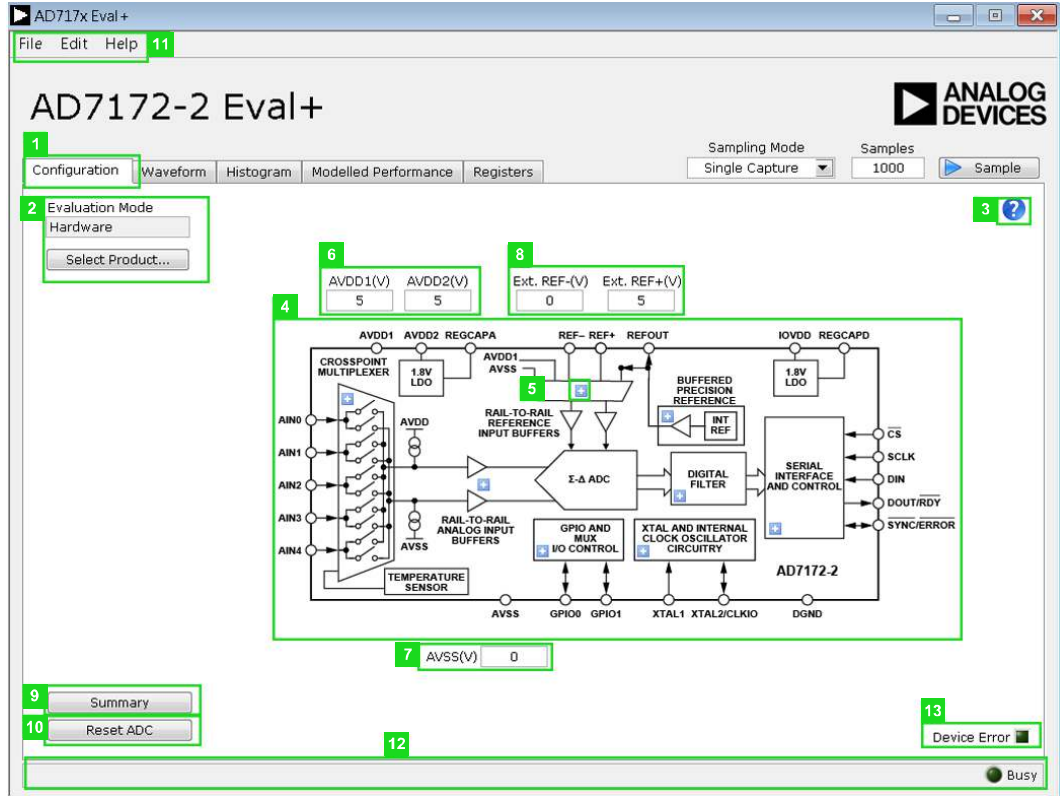
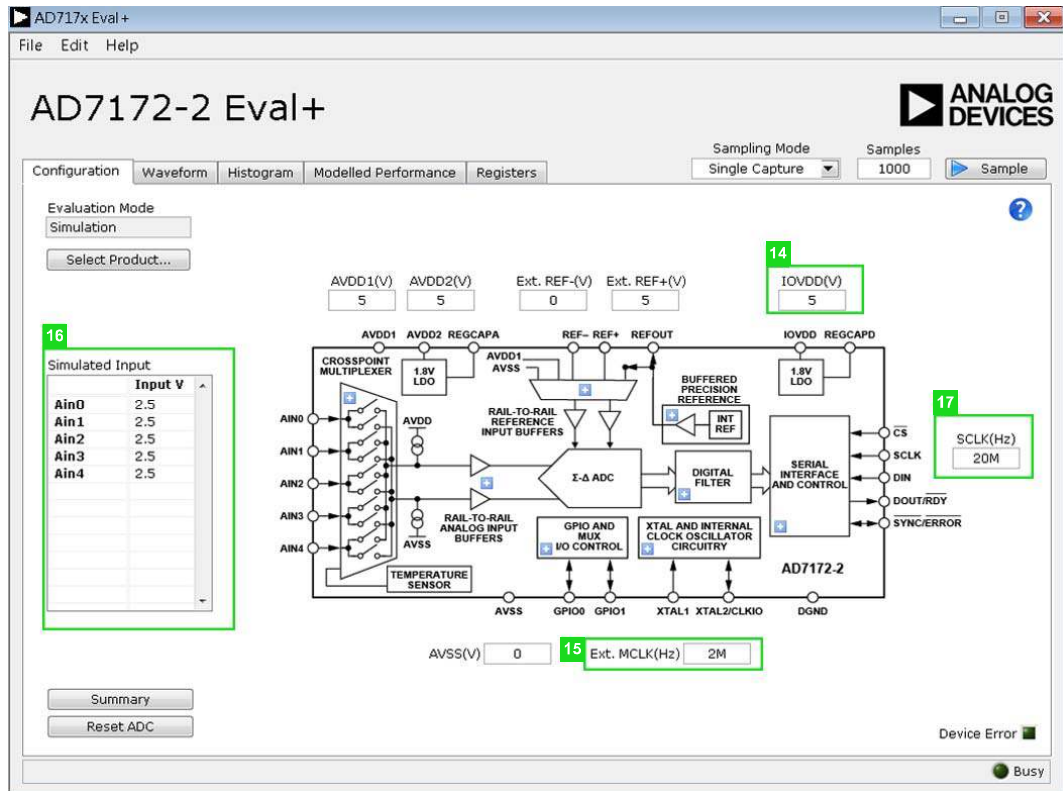

Figure 16. Configuration Tab of the AD717x Eval+ Software in Hardware Mode
Figure 17. Configuration Tab of the AD717x Eval+ Software in Simulation Mode
2. The dialogue box in Figure 13 appears; select **AD7172-2 Evaluation Board** and click the **Select** button. The main window of the software box displays as shown in Figure 16.
Figure 16 shows the **Configuration (1)** tab when **Hardware** mode is selected and Figure 17 shows the **Configuration** tab when **Simulation** mode is selected. The controls highlighted in Figure 17 are only available in **Simulation** mode.
The text fields labeled 6, 7, and 14 in Figure 16 and Figure 17 are input fields that are used to take the supply voltage levels selected for the **AD7172-2**. Checks are performed to ensure that the power supply voltage levels entered are within the specified limits. These power supply voltage levels are also used for the modelled performance to calculate the power dissipation.